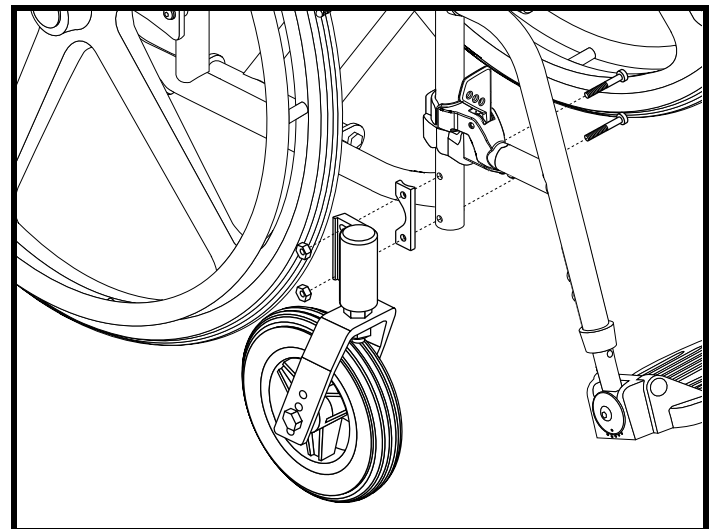

Figure 41. Bolt-on Caster Removal
1. Remove the hardware that attaches the caster wheel to the frame of your wheelchair. See figure 41.